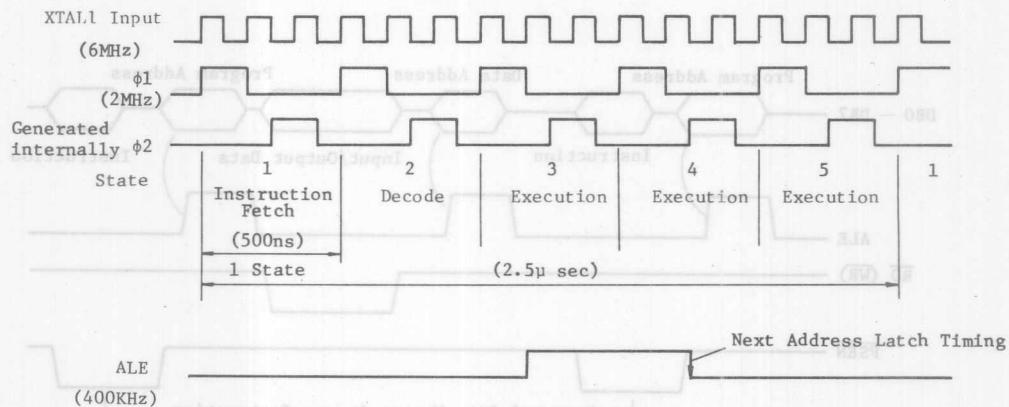

Fig.4 Instruction Cycle Timing
(1) Instruction Cycle
- Fig.4 illustrates its relationship with the clock input to CPU.
- $\phi 2$ clock shown in Fig.4 is derived to outside by ENTO CLK instruction.
(2) External Memory Access Timing